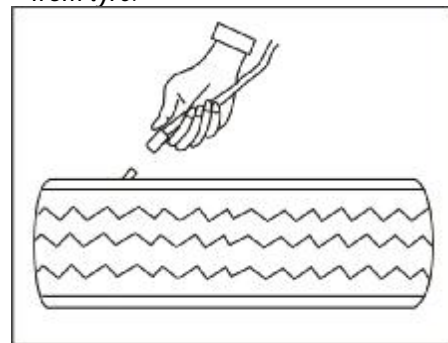

Fig.17
- I Connect the outlet of the inflating device to the air inflation valve as shown in Fig.17.